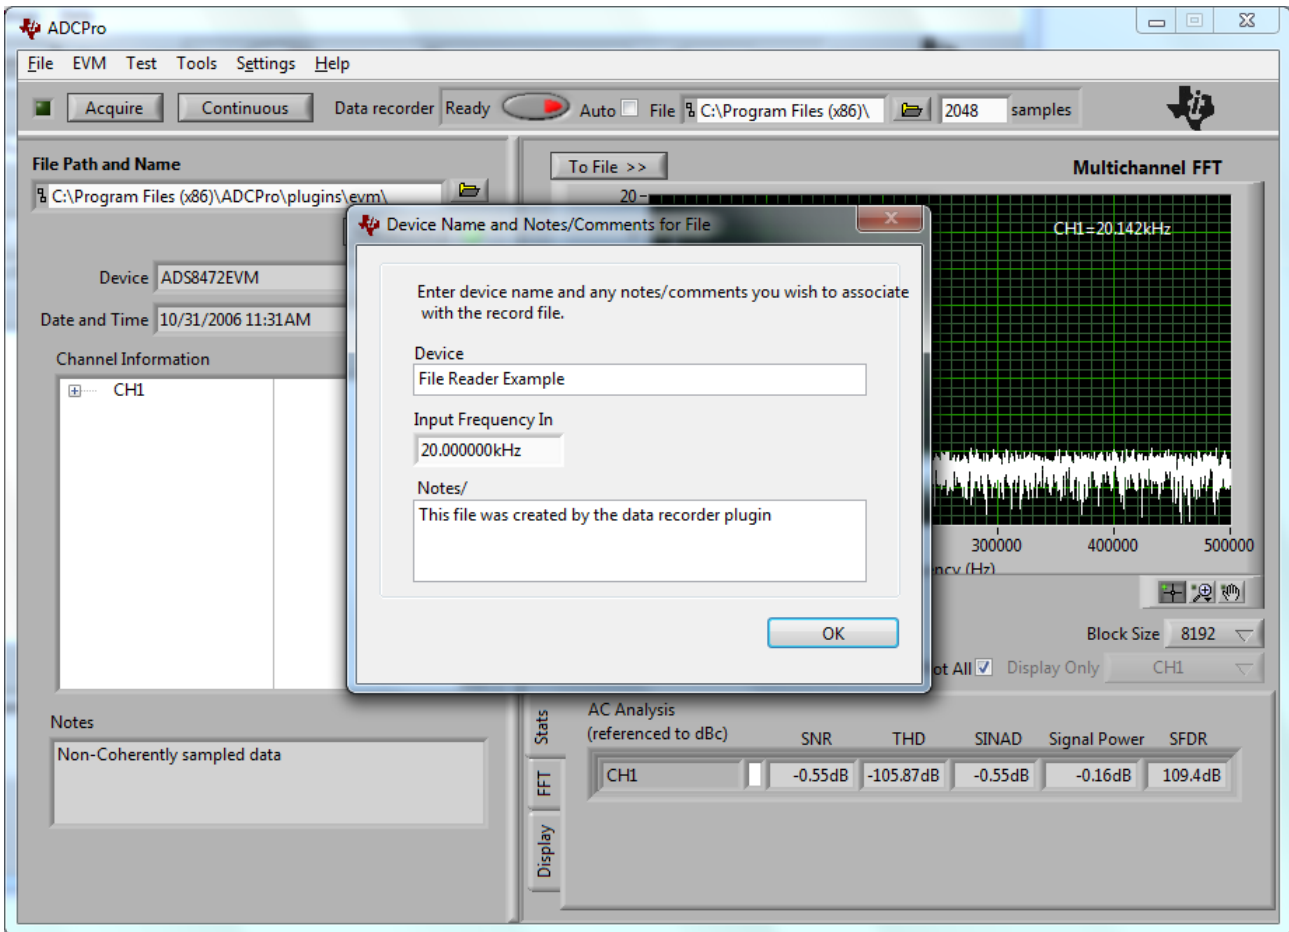

Figure 31. Device Name and Notes/Comments for File Dialog
- Click the **Ready** button. This action opens a dialog box where the user can enter the device name and any notes or comments about the test conditions of this saved data set, as shown in Figure 31.